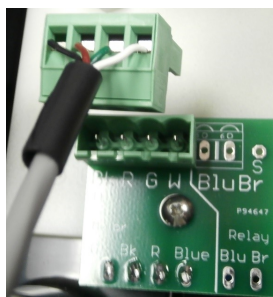

Figure 1.13
7. Follow the wire sequence in **figure 1.13**. *Be careful to ensure that there are no bare wires protruding out from the terminal clamps, to avoid potential shorts. Also make sure you are clamping down on bare wire, and not the insulation of the wire* The wiring sequence for the EHU is also imprinted on the PCB that the terminal header is mounted on (located inside the EHU), as shown in **figure 1.12**. Pay no attention to the second row of imprinted text, these pins are for use in the manufacturing of the board itself and are of no use to you. **Figure 1.12** shows a blue line crossing out the text in question. The orange circle shows the correct wiring sequence.